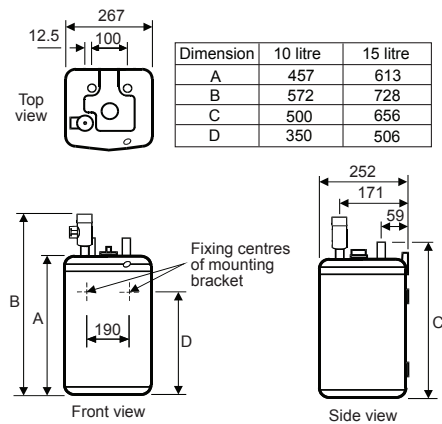

Figure 1
- ▶ Enough space should be left at the top above the product for pipe connections and access to the Temperature/Pressure Relief Valve. Refer to figure 1 and the Dimensions Table to determine a suitable position for the product.